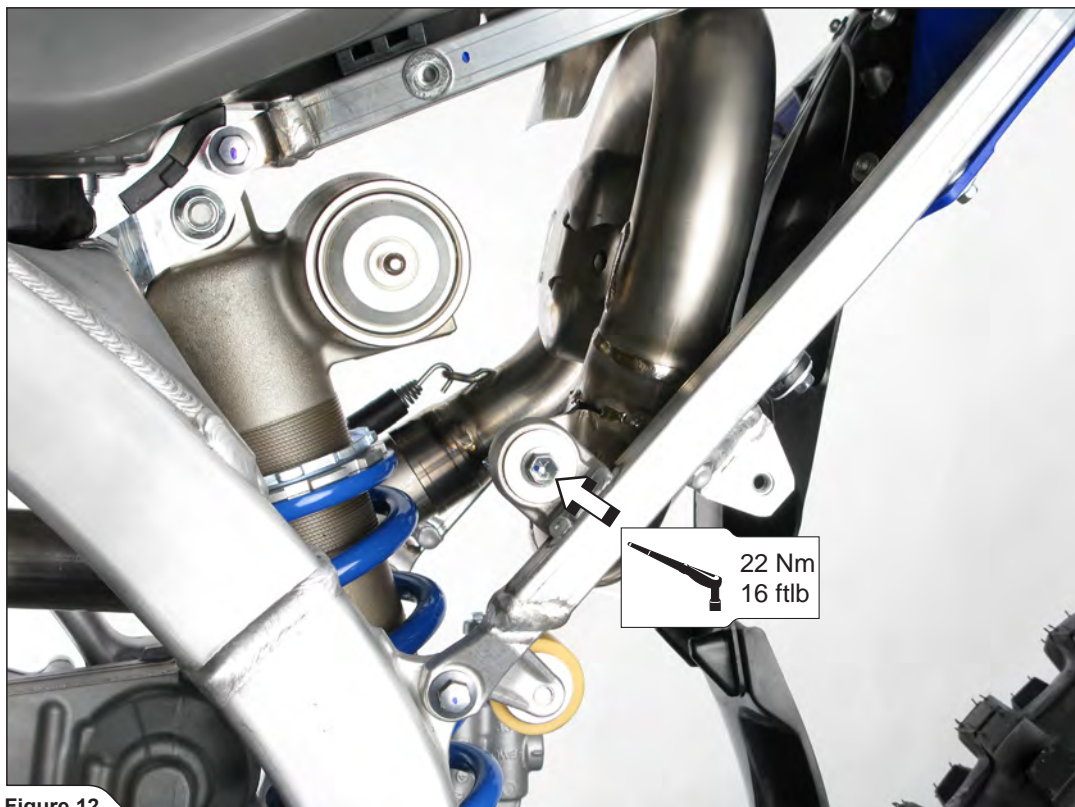

Figure 12
4. Screw the link-pipe to the sub frame, using stock bolt (Figure 12).